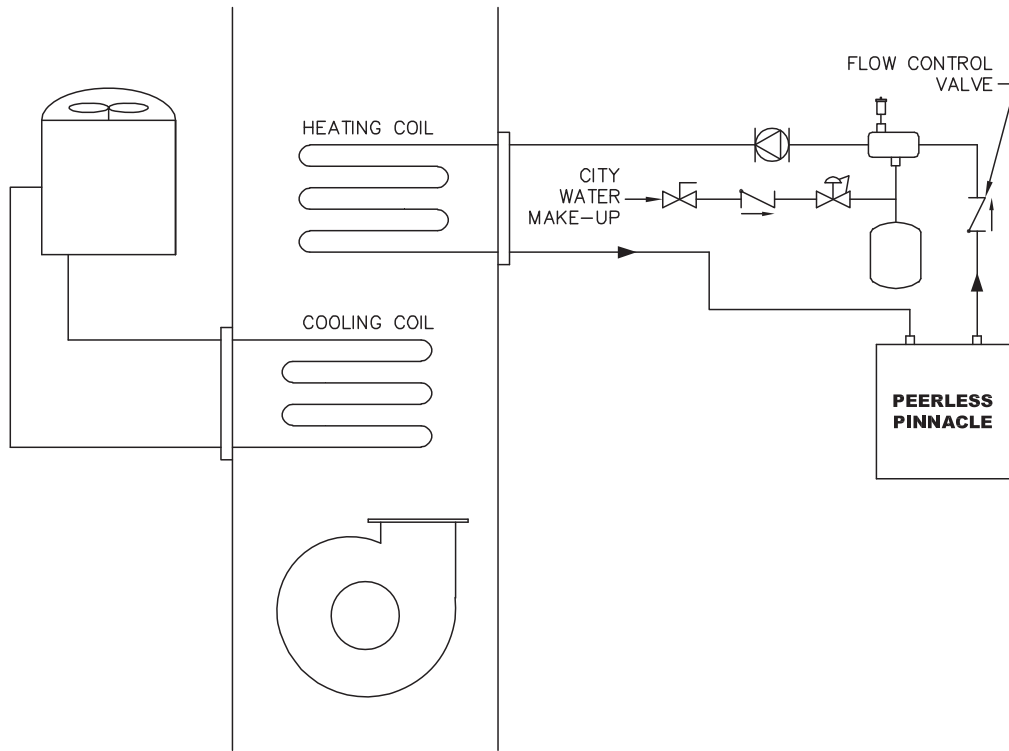

Figure 4.9: Boiler Connected to a Heating Coil in a Forced Air System
- b) See figure 4.9 for recommended system piping.